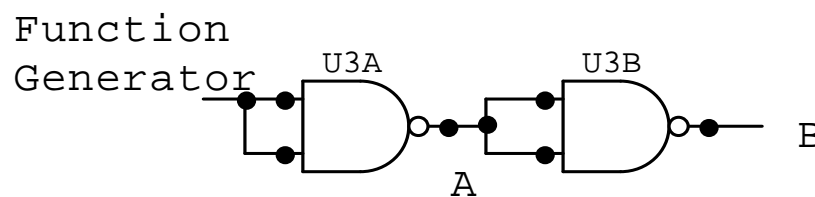

Figure 4.1: Cascaded NAND Gates as Inverters
2. With the Function Generator controls set as in Part 1 above, connect two NAND Gates of a 7400 chip as inverters, as shown in Figure 4.1: